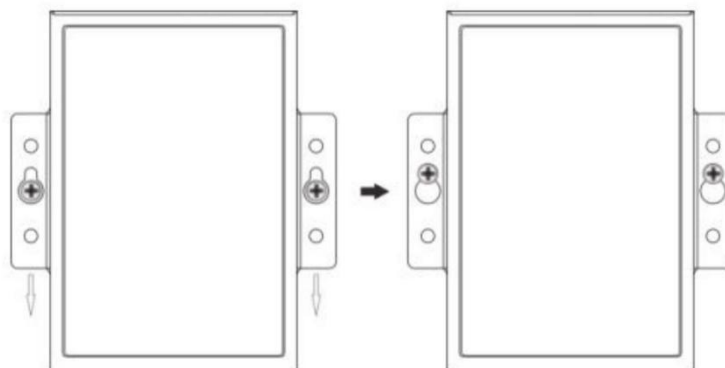

Fig.1 Wall mount installation
- ✧ Align the wall mount plate over the screws on the wall. Hang the device on two screws and slide it downward to lock in place, then tighten the screw to enhance stability, see the following Fig.1.